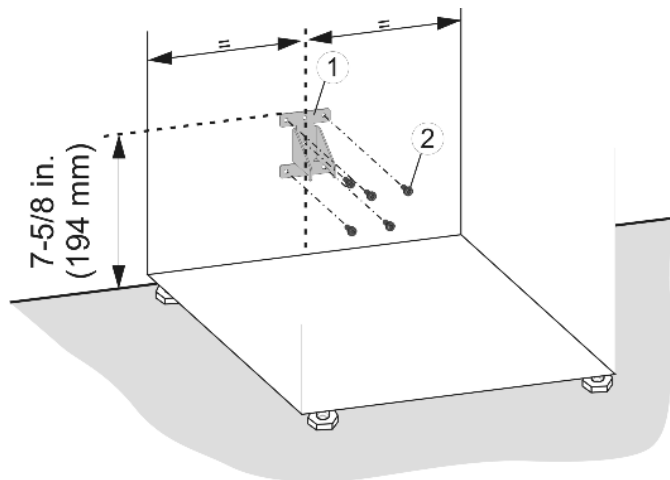

Fig. 44
- Install the anti-tip device *Fig. 44 (1)* using appropriate screws *Fig. 44 (2)*.